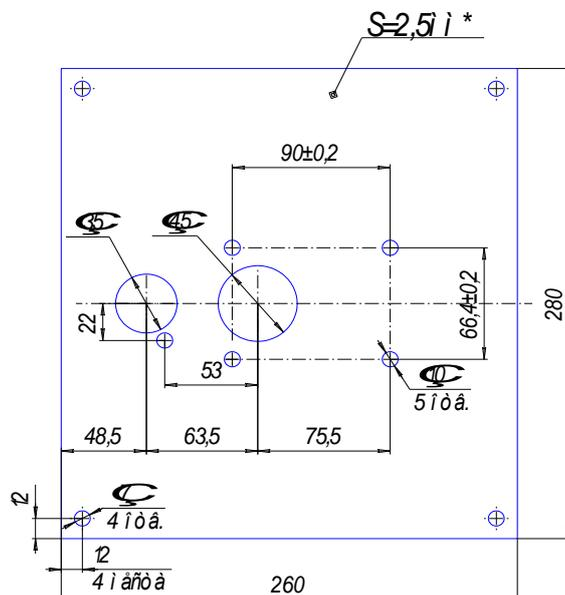

Figure 8.3 Mounting plate
2. to attach sealing plate to the heater see figure 7.1 (this plate is possible to be made of steel sheet with min thickness 2.5 mm see figure 8.3)